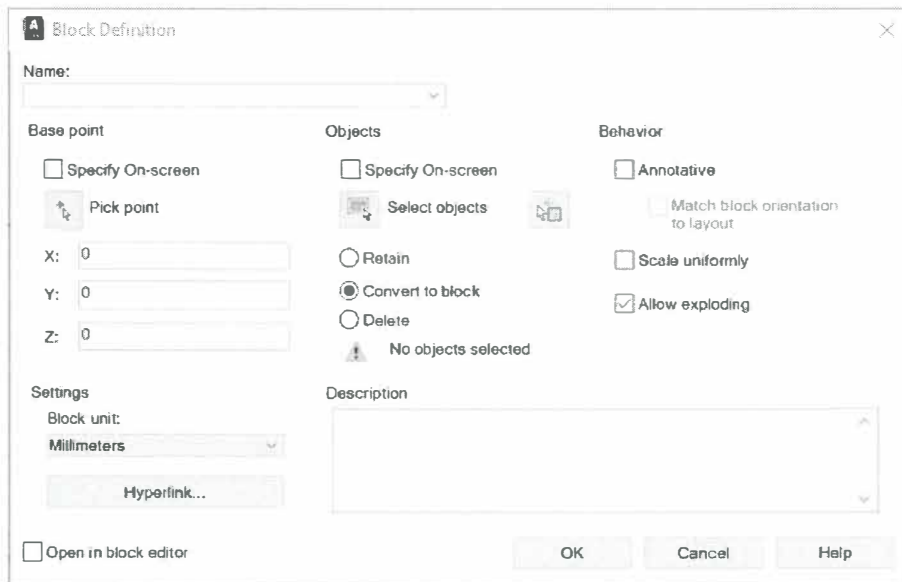

Figure 5–1
3. In the Block Definition dialog box (as shown in Figure 5–1), specify the *Name*, *Base point*, *Objects*, *Behavior*, *Settings*, and *Description*.